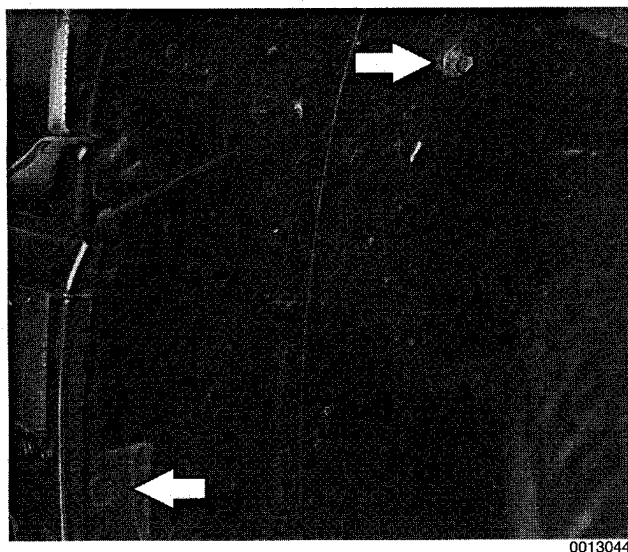

Fig. 8. Bumper cover retaining screws (arrows) in left wheel well.
5. Remove bumper cover retaining screws in front wheel well (left and right sides). See Fig. 8.